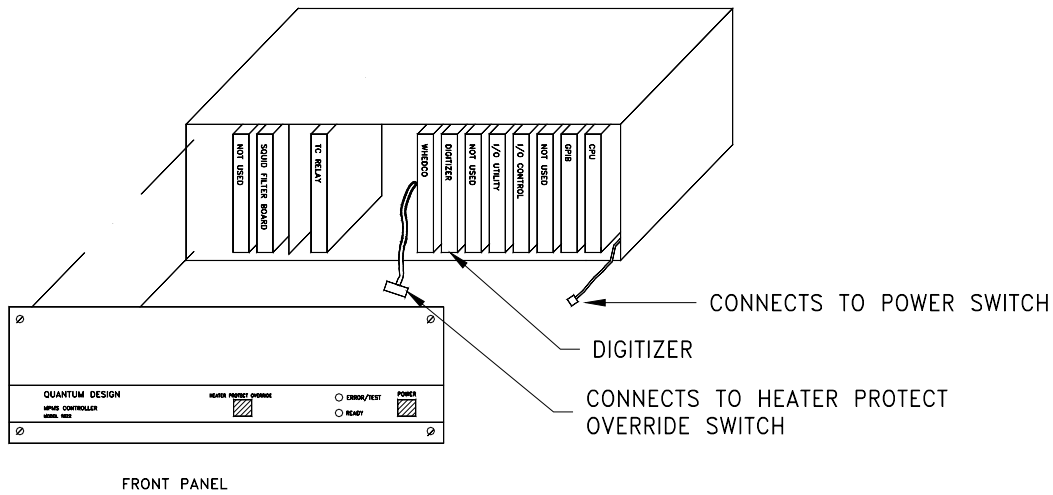

Figure 3a. The 1822 MPMS Controller with the front panel removed.
To determine the speed of the CPU board, remove the board from the Model 1822 Controller. Figures 3a and 3b show the location of the CPU board for the MPMS and MPMS XL systems. Refer to *Service Note 1014-804: 1822 CPU Board Replacement* for instructions on removing the CPU board.
**For MPMS systems:** Remove the front panel of the Model 1822 Controller by removing the faceplate screws and disconnecting the Power and Heater Protect Override switches (Figure 3a).